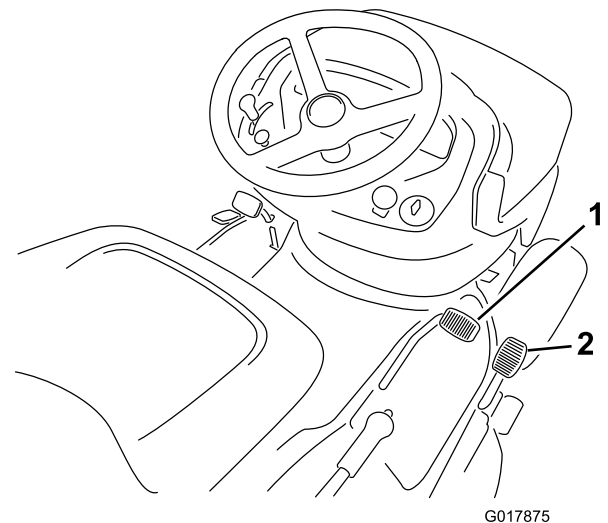

Figure 13
2. Place your foot on the traction control pedal and slowly press on the pedal to move forward (Figure 13).
2. Place your foot on the reverse speed pedal and slowly press on the pedal to move backward (Figure 13).